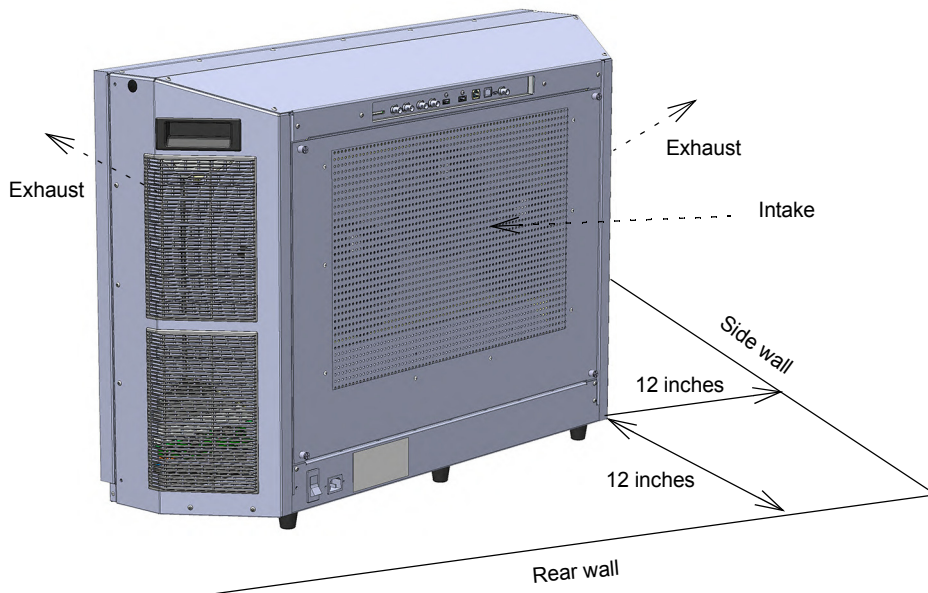

Figure 2-1 PRM-4220 Ventilation Requirements
1. Position the PRM-4220 in a well-ventilated area, at a minimum of 12 inches from a side wall and 12 inches from a rear wall. In addition, if you install the PRM-4220 in any type of enclosure, air should flow into the enclosure at a minimum of 200 cubic feet per minute with air at 25°C (77°F). Be sure that no exhaust air recirculates to the intake on the rear panel (see Figure 2-1).